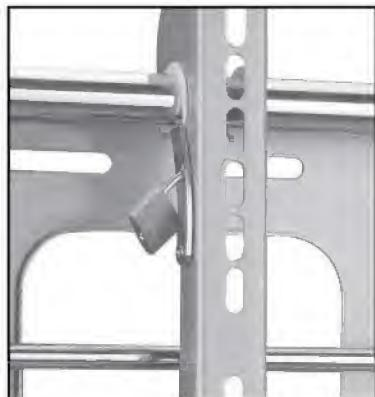

Fig. 6 - A small padlock can be used to help prevent theft of your display.
2. Move the safety tab located on each arm into position to avoid having the display accidentally lifted from the mount. A padlock can be inserted into one of the tabs to help prevent theft of your display (Fig. 6).